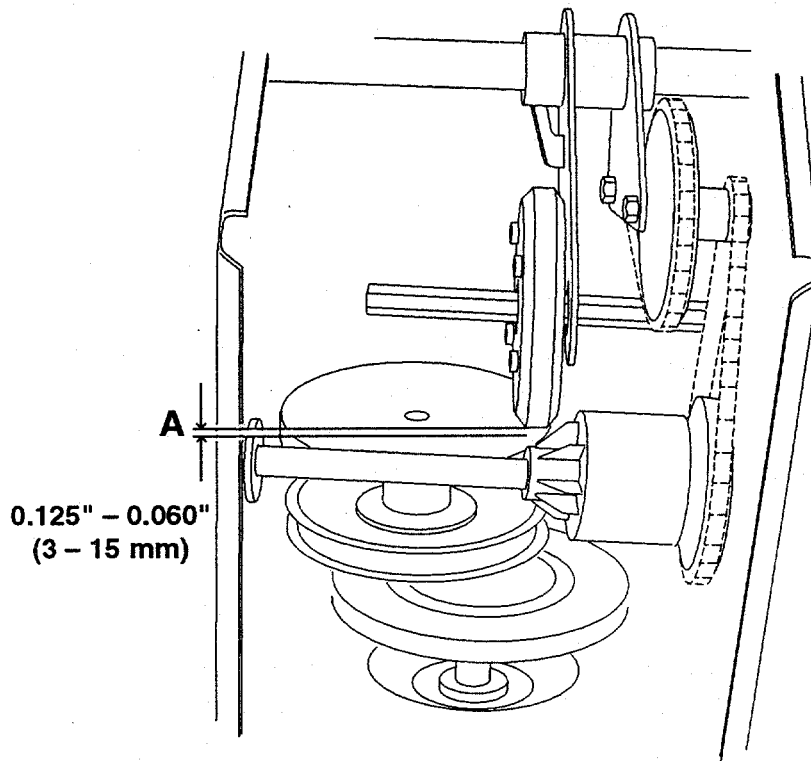

Fig. 6-12
2. Check clearance (A, Fig. 6-12) between disc and rubber drive wheel. Clearance should measure between 0.060" and 0.125" (3-15 mm) when wheel drive lever is disengaged (released). If clearance is correct, drive disc clearance adjustment is correct.